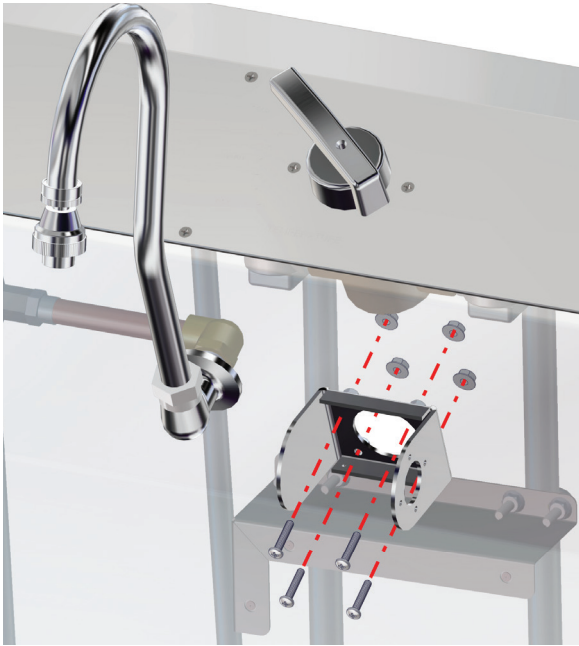

Figure 4: Attach Eye Wash Housing
2. Attach the eye wash housing to the front face of the sink basin wall. Secure with the supplied 4 pan head screws and 4 nylon lock nuts. See Figure 4 (Sink basin wall is shown half transparent for clarity).